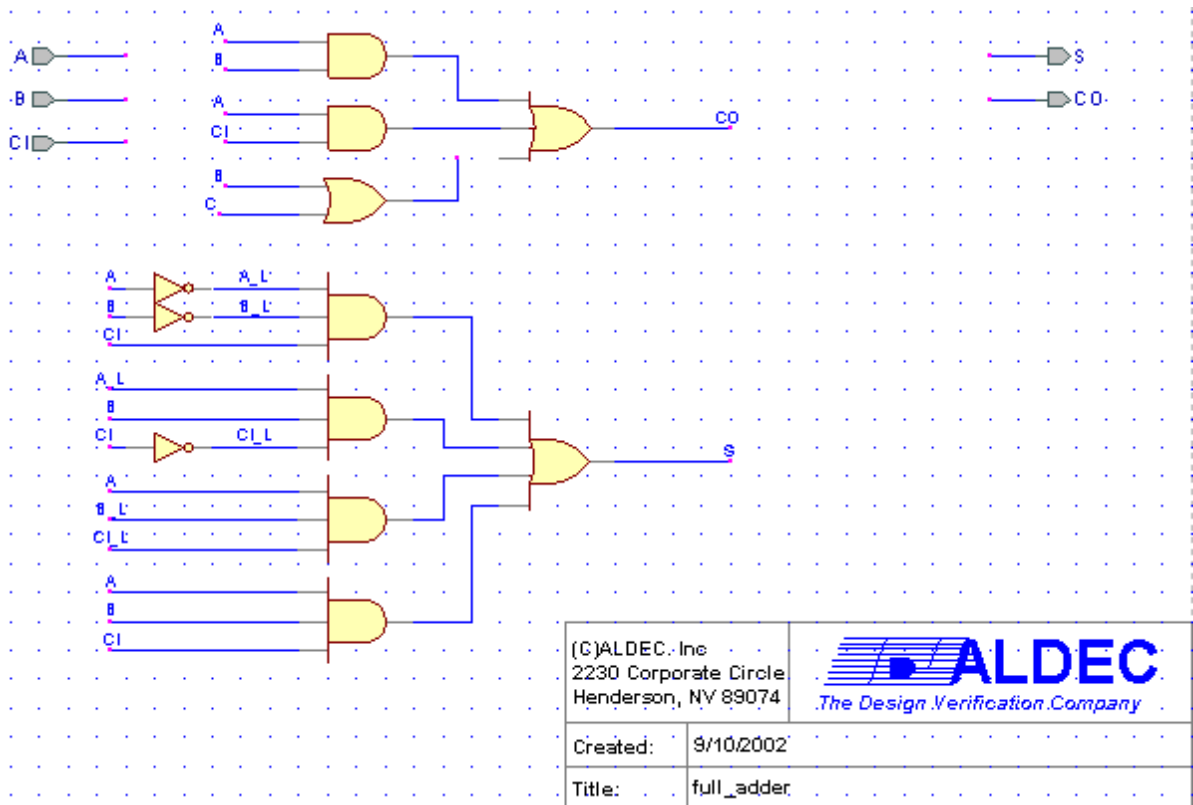

Figure 42
We will walk through a simple, yet common, scenario with a schematic that contains errors and warnings. Some of these problems can be pinpointed and solved by simply running a check diagram and reviewing the DRC. However, the DRC cannot find and report your logic errors. What do you do if you have checked your design, compiled successfully, and when you run your simulation, your results are flawed? The techniques below will show you how to use the tools provided by Active-HDL to trouble-shoot your design, and fix some of the most common mistakes. We used Figure 42 in the following steps to demonstrate the debugging process.
1. First, we saved, and checked our design. When checking the schematic shown in Figure 42, Active-HDL generated the DRC report shown below.